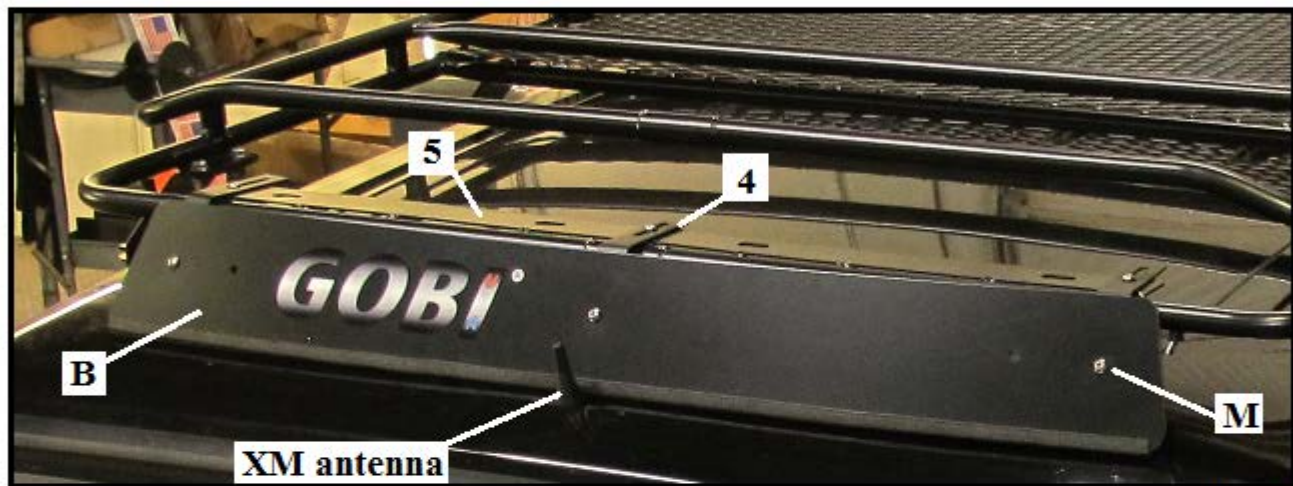

Fig. 5
The wind deflector comes pre assembled with all three mounting brackets (4). Place wind deflector (B) over the front of the roof rack and on top of roof rack light bar (5) and as shown if your vehicle has a forward XM antenna place the wind deflector behind the XM antenna as shown in Fig. 5 above. Use the hardware located in Bag #2 of your hardware kit and install wind deflector to light bar (5) and use the small slots located in the light bar at center and both ends. Start with the center wind deflector mounting bracket (4) and place one 1/4-20 x 5/8" stainless steel button head screw and black nylon washer through the bracket then into the light bar center slot and use a black nylon washer below with a 1/4-20 nylock nut and make certain to place anti-seize paste prior to assembly of the screws. Adjust the center bracket so that the wind deflector just sits behind the XM antenna and fully tighten down. Go to either the passenger or driver side and pull the wind deflector mounting bracket (4) to the end slot of the light bar and follow the same procedure but pull the wind deflector so that the wind deflector almost makes contact with the roof rack then fully tighten. Apply the same procedure to the opposite side and when completed the wind deflector will have a slight bow. Make certain the wind deflector is fully seated to the vehicle roof top if not loosen the wind deflector mounting screws (M) holding the wind deflector to the wind deflector mounting brackets (4) then pull the wind deflector down towards the roof top make certain the wind deflector is level and centered with the roof rack then fully tighten all screws. Roof rack installation completed.